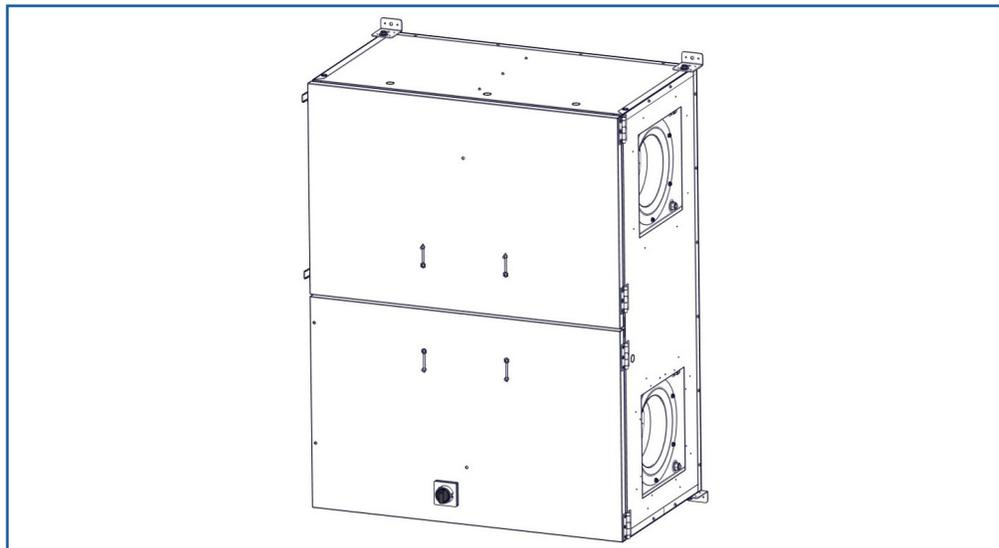

FIGURE 5.3.1 HANGING BRACKET KIT
The TRCeN500–TRCeN1200 can also be mounted to structural members using the Hanging Bracket Kit, available as an accessory. Remove the four adjustable legs and use the included 3/8" -16 bolts and washers to attach the hanging brackets to the unit as shown in Figure 5.3.1. The hanging brackets may be attached directly to a structural member or used in combination with threaded rod and the hanging vibration isolators (see Section 5.3.4). If the spacing of the unit mount points does not fit the application, the hanging brackets may alternatively be attached directly to the cabinet using (16) #12 x 3/4" long self-tapping sheet metal screws (not provided). Ensure that the unit is adequately supported at all four corners and that the placement of the brackets maintains required service clearances.